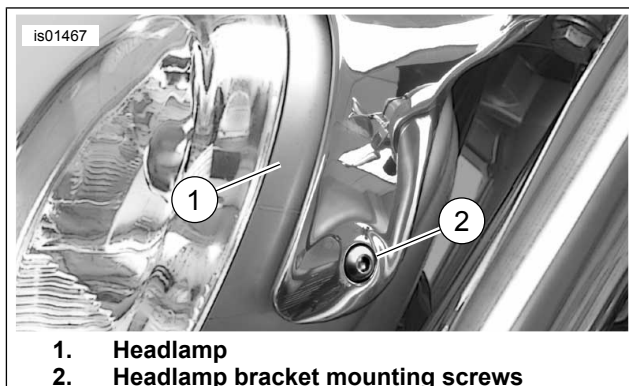

Figure 1. Remove Headlamp Mounting Screws (Left Side Shown)
1. See Figure 1. While holding the headlamp (1), remove the left and right headlamp bracket mounting screws (2).